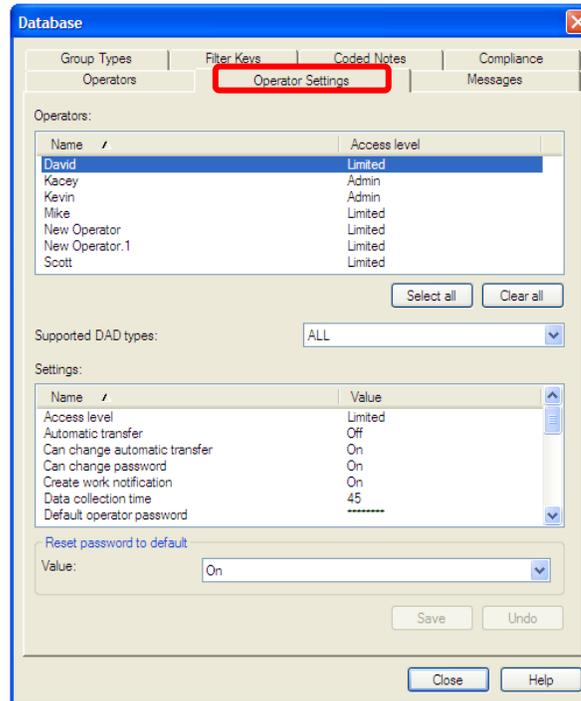

Figure 2. Operator Settings tab
2. Select the **Operator Settings** tab. [Figure 2]